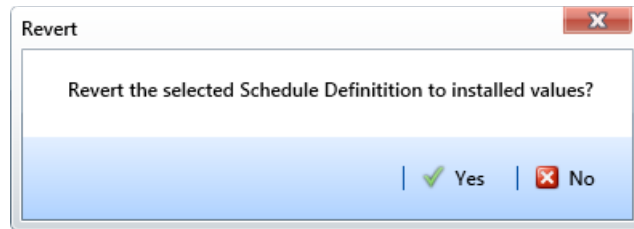

**Figure 9-10. Adding a Schedule Type**
- b Click the top arrow button  to move the schedule type(s) to the *Selected Schedule Types* pane (Figure 9-10). Click  **Save**.
- a Select a schedule type listed in the *Selected Schedule Types* pane (Figure 9-10). To select multiple schedule types, press the **Ctrl** key on the computer keyboard while selecting each schedule type.